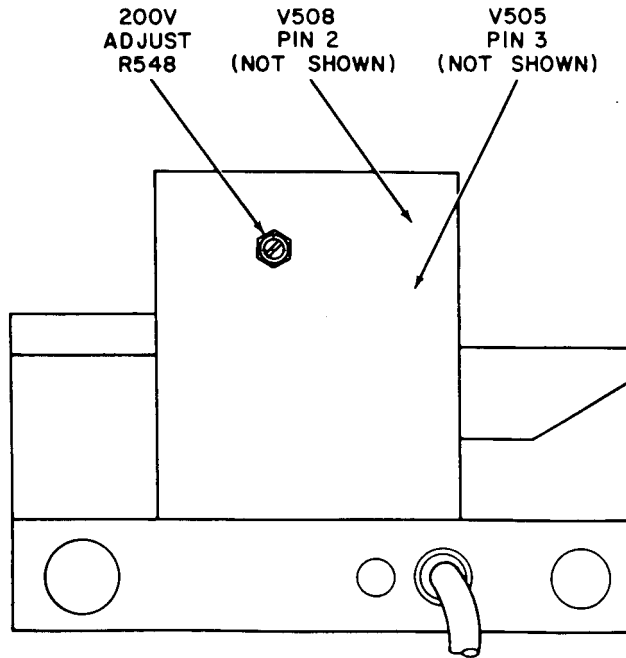

Figure 4. Electronic counter - rear view
(1) Adjust dc voltmeter (A2) to measure -105 and connect between V508 pin 2 (fig. 4) and chassis ground on test instrument.
(2) Dc voltmeter indication shall vary less than 2.1 volts dc as autotransformer is adjusted between 105 and 125 volts ac.
- (3) Adjust autotransformer to 115 volts ac.
- (4) Connect dc voltmeter between V505 pin 3 (fig. 4) and chassis ground on test instrument.
- (5) Dc voltmeter indication shall be between +194 and +206 volts dc. Record indication.
- (6) Dc voltmeter indication shall vary less than 4 volts from the indication recorded in (5) above and be within tolerance given in (5) above as the autotransformer is adjusted between 105 and 125 volts.
- (7) Adjust autotransformer to 115 volts ac.
- (8) Annotate VOLTAGE DC on DA Form 2416.
- (1) Repeat **a**(4) above.
- (2) Adjust 200 v ADJUST R548 (fig. 4) for +200 volt dc indication on dc voltmeter.